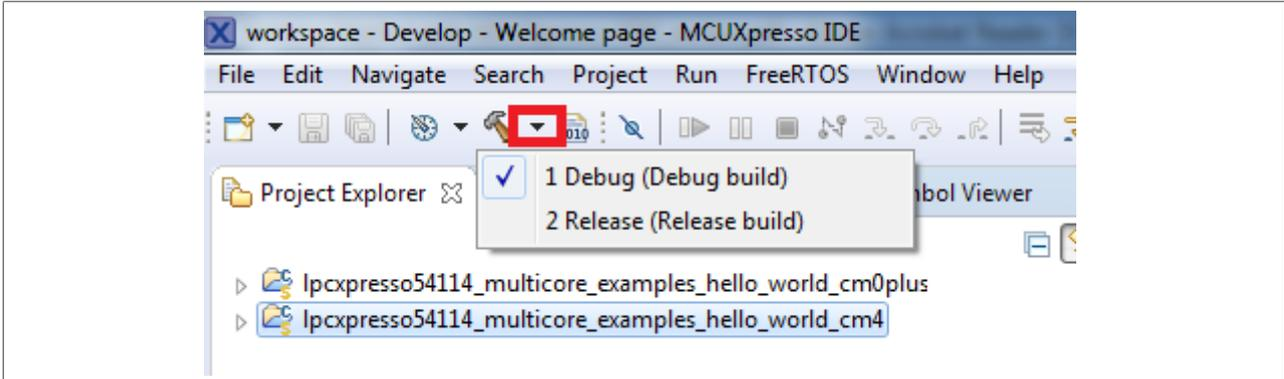

Figure 11. Selection of the build target in MCUXpresso IDE
- 3. Now, two projects should be imported into the workspace. To start building the multicore application, highlight the `lpcpresso54114_multicore_examples_hello_world_cm4` project (multicore master project) in the Project Explorer. Then choose the appropriate build target, **Debug** or **Release**, by clicking the downward facing arrow next to the hammer icon, as shown in Figure 11. For this example, select **Debug**.